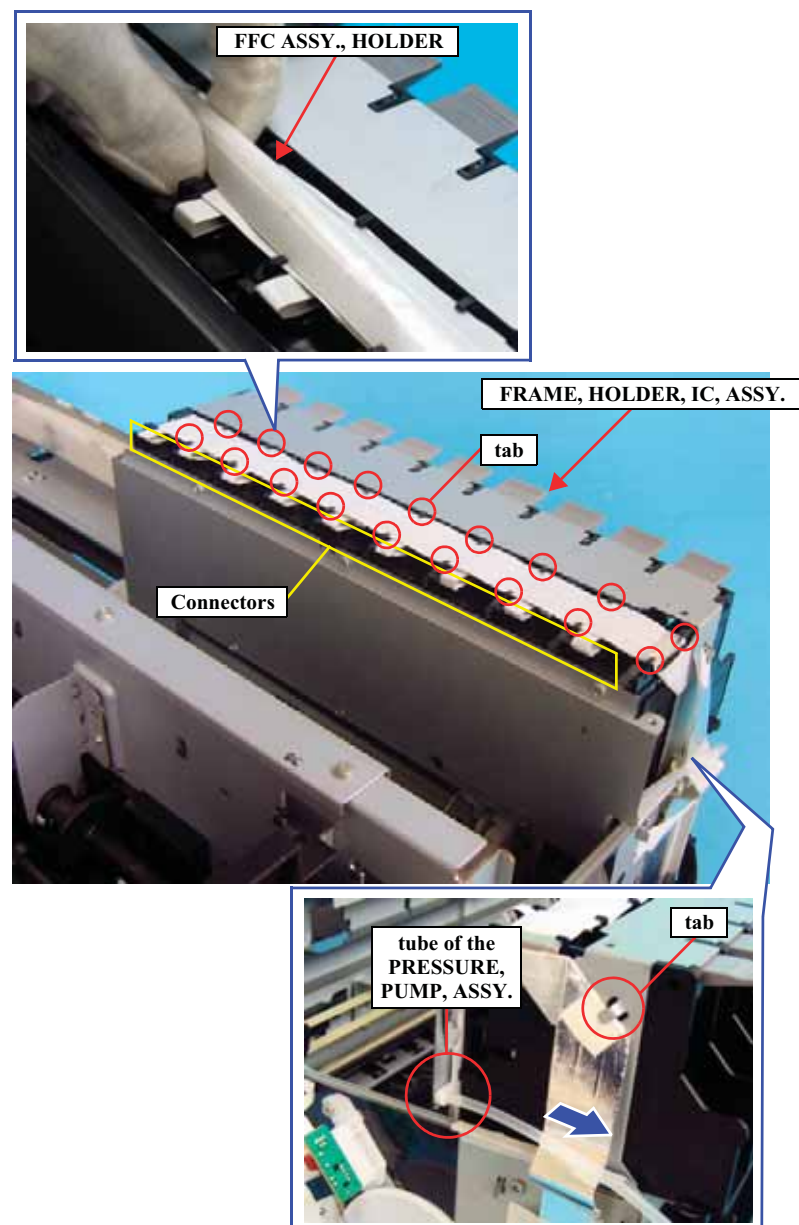

Figure 4-81. Releasing the FFC ASSY., HOLDER
4. Pull out the tube of the PRESSURE, PUMP, ASSY. from the left side of the FRAME, HOLDER, IC, ASSY. *See Figure 4-81.*